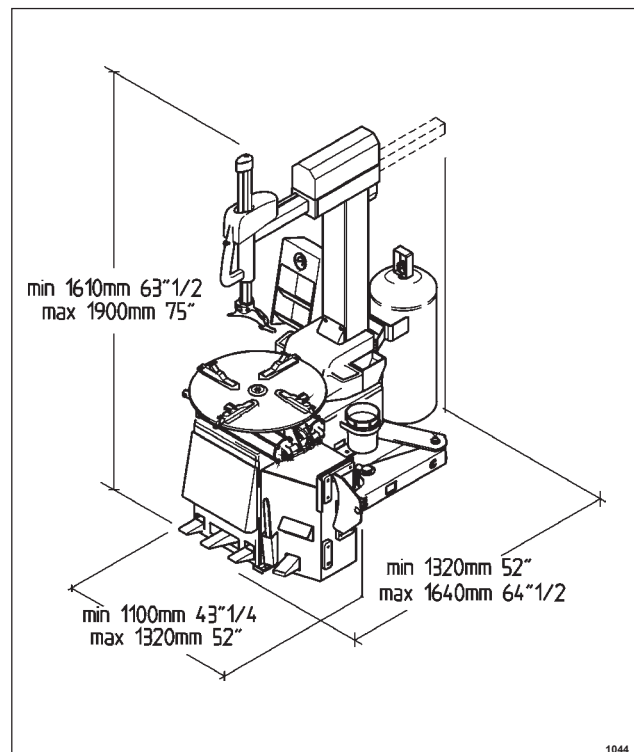

Fig. 1.3-1
1.3 DIMENSIONS OF THE MACHINE (Fig. 1.3-1)